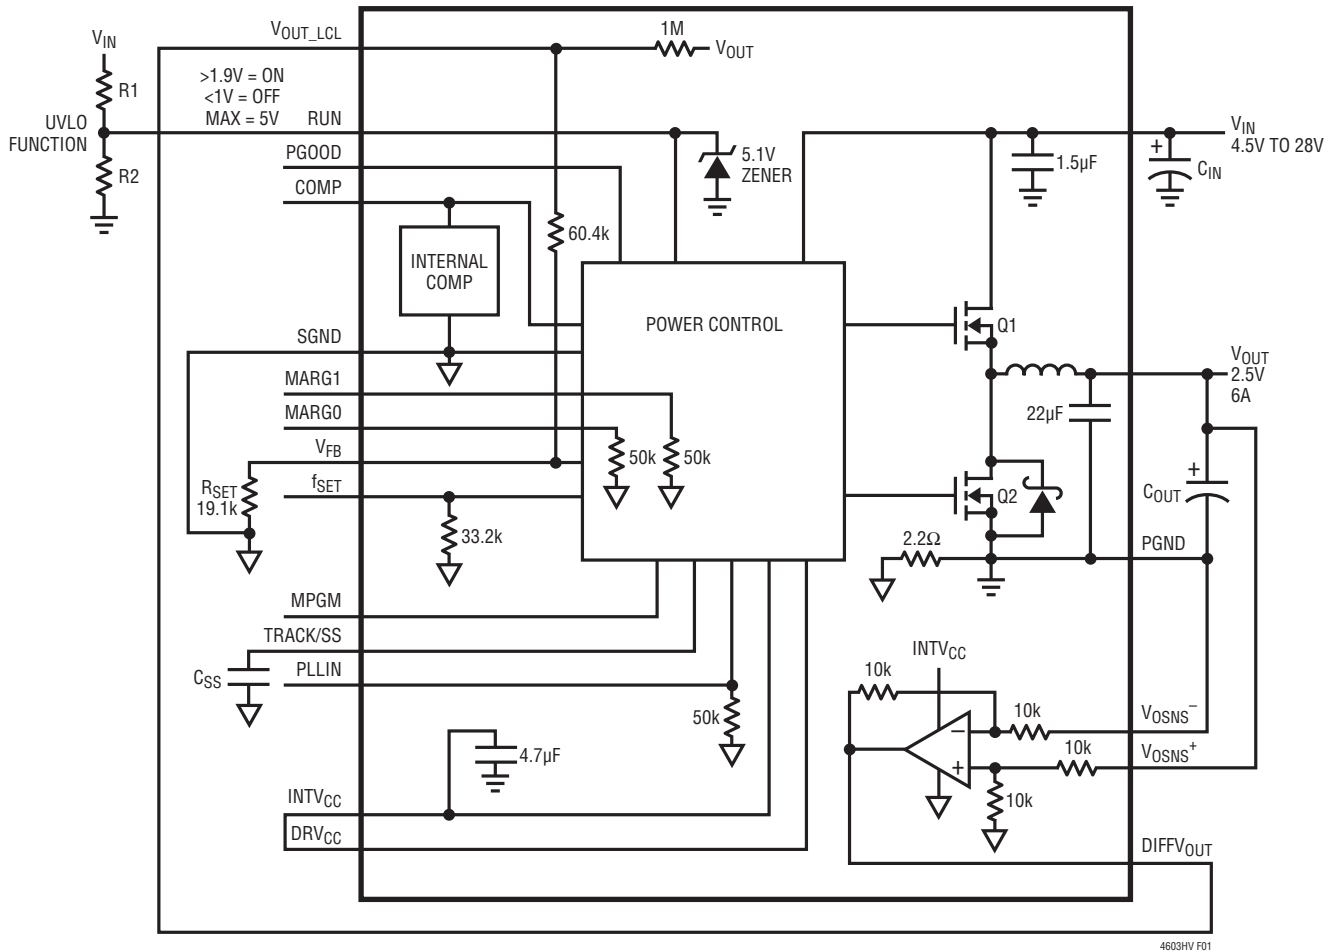

Figure 1. Simplified LTM4603HV Block Diagram
**RUN (Pin A10):** Run Control Pin. A voltage above 1.9V will turn on the module, and when below 1V, will turn off the module. A programmable UVLO function can be accomplished by connecting to a resistor divider from VIN to ground. See Figure 1. This pin has a 5.1V Zener to ground. Maximum pin voltage is 5V. Limit current into the RUN pin to less than 1mA.
$T_A = 25^\circ\text{C}$ . Use Figure 1 configuration.
See the Simplified Block Diagram (Figure 1).